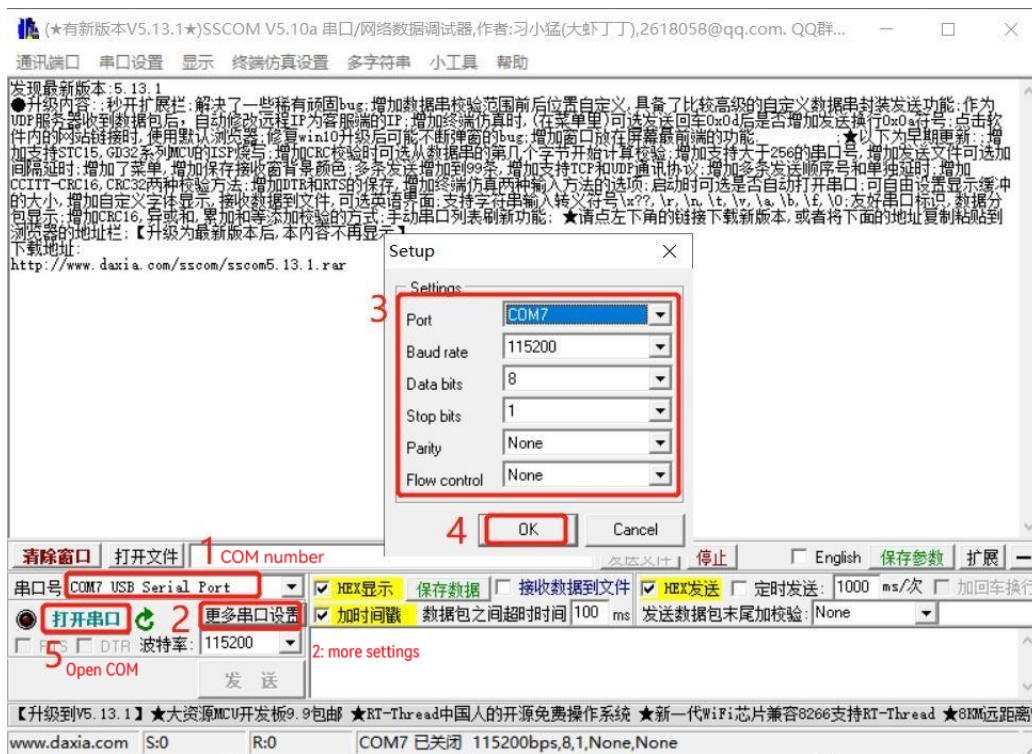

Figure 6-1 RS485 serial PC setting
- Step 2 As shown in Figure 6-1, operate the RS485 serial PC (sscom5.10a.exe), select the PC port connected by USB in “ComNum”. Click “More Settings”. Set the “Baud rate” to “115200” (Corresponding to the PC setting), that is, 8 “Data bits”, 1 “Stop bits” and none “Parity”.